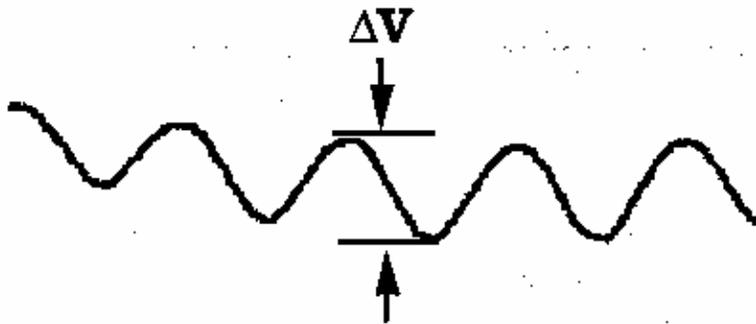

Figure 3.8: an example of the V- Φ Curve for Mr. SQUID
To automate this procedure, switch the function switch (1) from V-I to V- Φ . In this new mode, all of the controls on the Mr. SQUID control box work the same way as before, except for the amplitude control (4). Instead of controlling the sweep of the drive current through the SQUID, it now controls the amplitude of the current through the gold modulation coil, which is linearly related to the magnetic field applied to the SQUID. To view as many V- Φ periods as possible, turn the amplitude control (4) in the clockwise direction. Depending on the particular SQUID and coil in your probe, you should be able to see at least four or five periods of oscillation, as shown in Figure 3.8.
you can use this mode for more convenient viewing of the $V-\Phi$ curve (never use the AC mode to look at the $V-I$ curve, or it will be completely distorted on the oscilloscope screen.) You should see a curve that resembles the one shown in Figure 3.8. Depending on the particular device and on the settings on the control box, you may see many more periods than shown here. At this point, you can try to maximize the signal by fine-tuning the current bias control (3) to the most sensitive part of the $V-I$ curve (just keep your eye on the $V-\Phi$ curve as you tweak the current bias control until you get the maximum modulation). There will be some setting of the current bias control that gives the largest modulation amplitude.